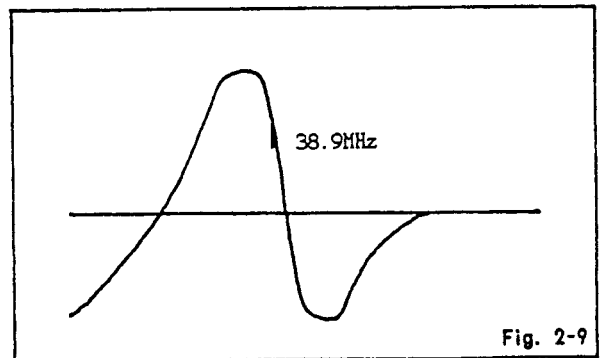

Fig. 2-9
1. Connect output of the sweepmarker generator to tuner pack TP and adjust L6011 so that output waveform for TP6001 is as shown in Fig. 2-9.